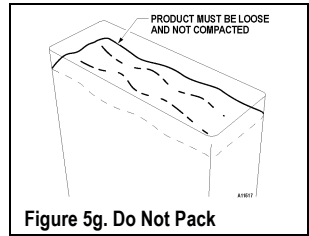

Figure 5g. Do Not Pack
- Leave a gap from the top of the product to the lip of the canister. **Figure 5g.**